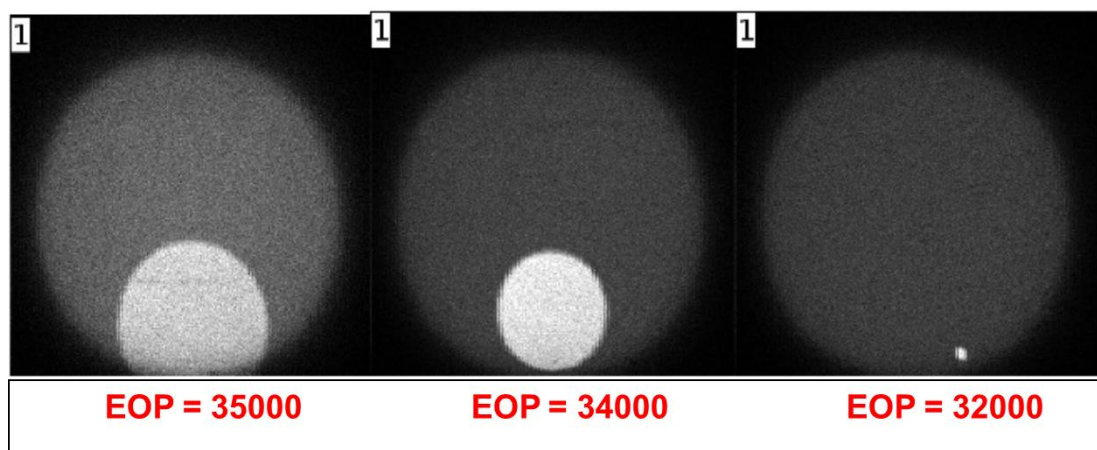

Figure 388: Influence of EOP on the beam size
- Go to a clean zone on your sample and repeat the procedure until you obtain the EOP value that gives the smallest beam (Figure 388).